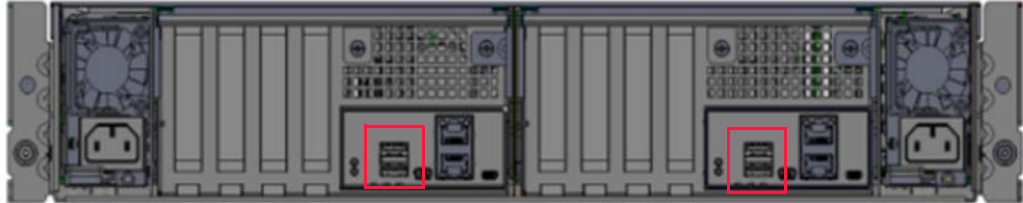

Figure 3.2 USB port on server's operator panel
1. Insert the USB drive or other device—preloaded with the chosen operating system—into one of the USB ports on the server's operator panel. The USB ports are identified in Figure 3.2.